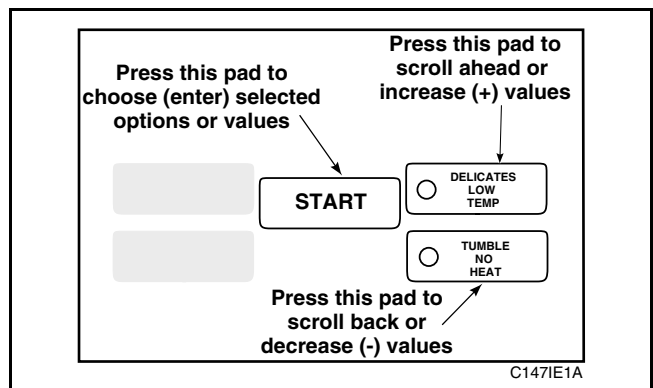

Figure 18
6. Press the LOW TEMP (+) pad or the NO HEAT (-) pad to increase or decrease the current three-digit number displayed in the VFD to the desired three-digit number, *Figure 18*.